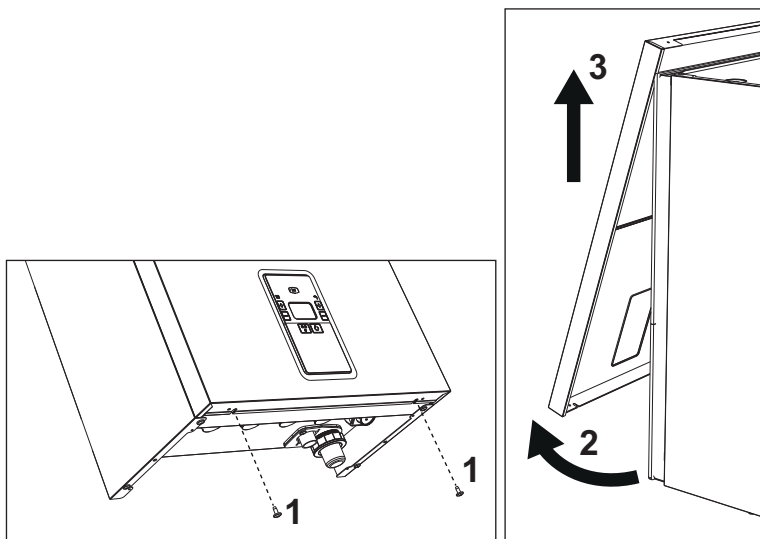

fig. 47- Front panel opening
1. Undo the screws "1" (see fig. 47).